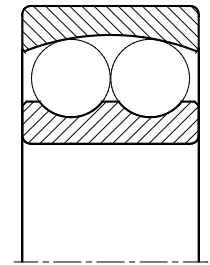

Fig. 2.6
**Self aligning ball bearings** (fig. 2.6) are double row ball bearings, each set of balls rotate within a single outer ring spherical raceway. This gives the bearing a self aligning feature to overcome misalignments, shaft deflections and housing variations.